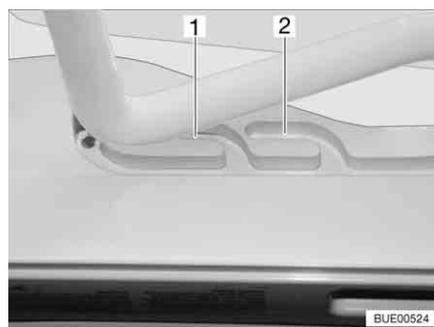
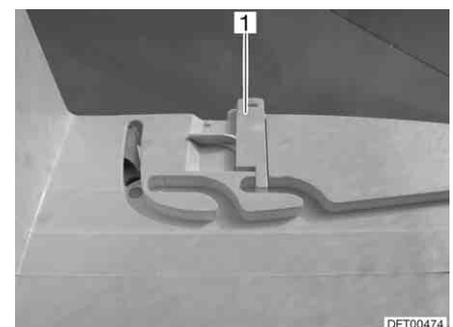

Fig. 113 Heki skylight in ventilation position
Fig. 114 Ventilation position locking mechanism
The Heki skylight can be put in two ventilation positions: Bad weather position (Fig. 113,1) and central position (Fig. 113,2). Depending on the model, the skylight can be locked in the central position with both left and right latches (Fig. 114,1) on the skylight frame.
- Push the bar slightly upwards and into the selected guide (Fig. 113,1 or 2) and lock if necessary.